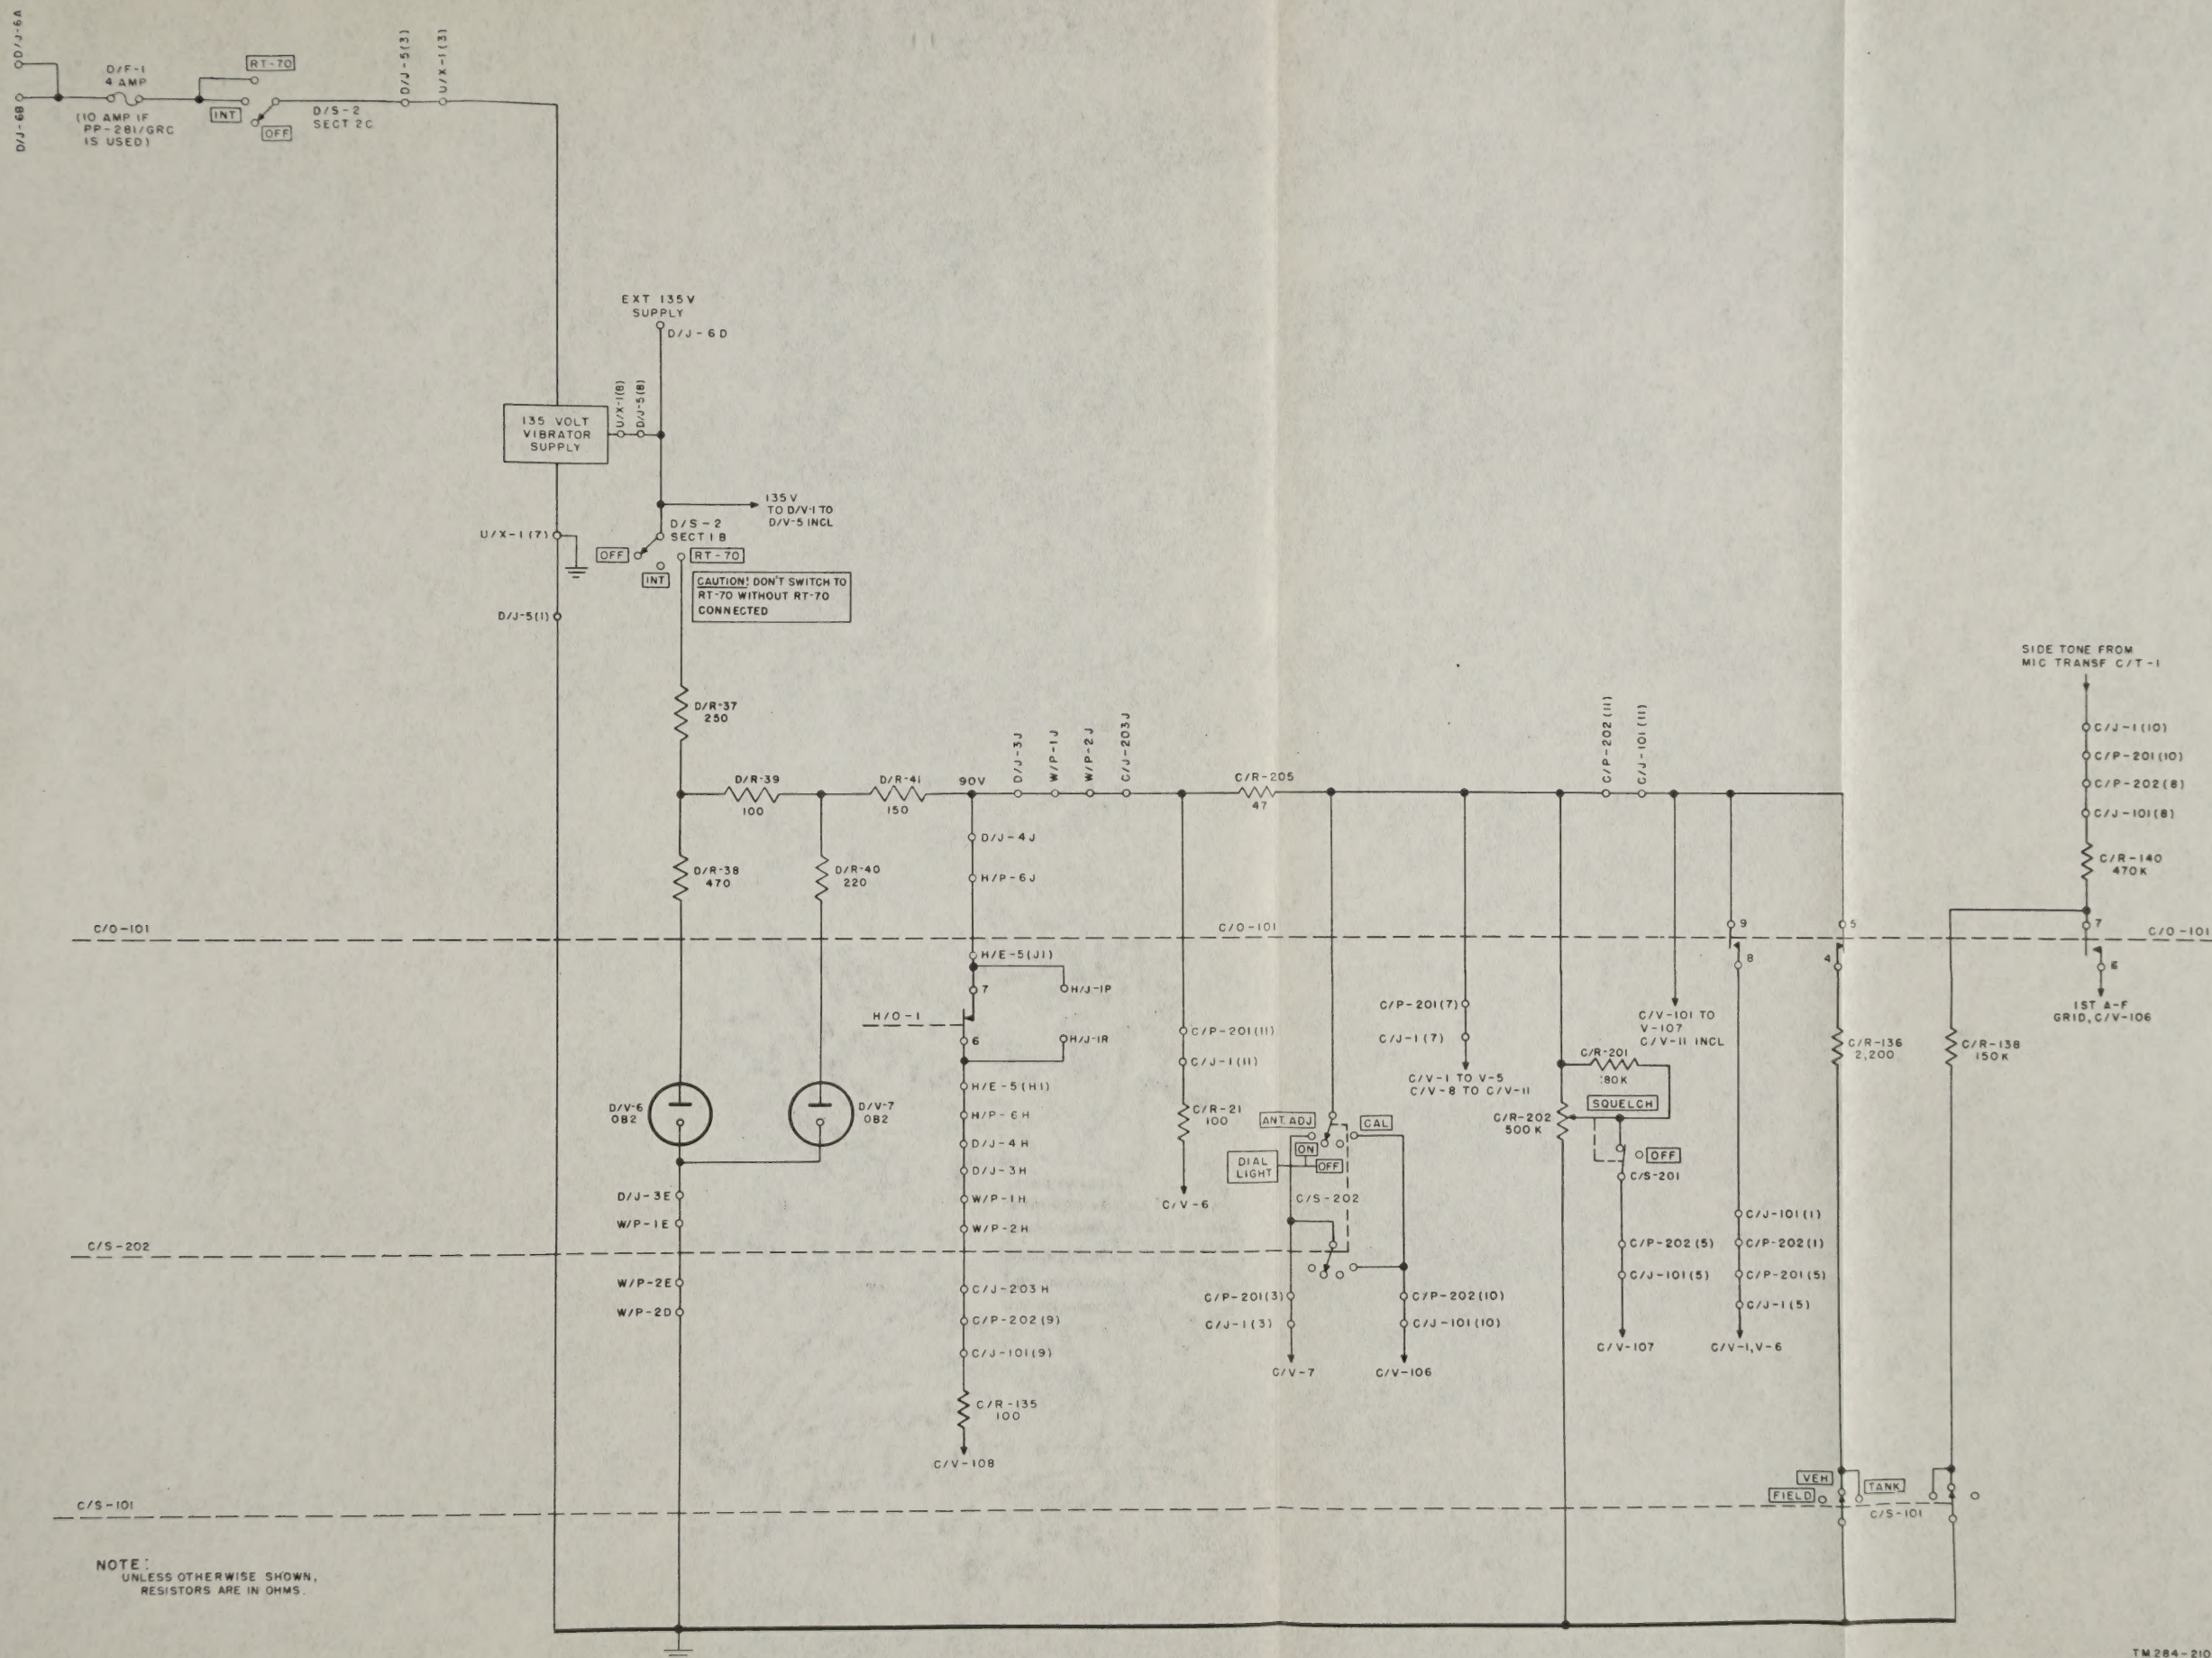

Figure 62. Power distribution to interphone amplifier and Set 2 plate and screen circuits.
c. *Amplifier Plate and Screen Supply.* The input voltage for the plug-in vibrator power supply in the amplifier is supplied through terminals D/J-5(3) and U/X-1(3) (fig. 62). The vibrator power supply develops a 135-volt output which is applied to the amplifier and Set 2 plate and screen circuits (fig. 62). The amplifier tubes (V-1 through V-5) are supplied directly from the output of the vibrator. Provisions are made through terminal D/J-6D (POWER IN) to substitute an external 135-volt source for the vibrator output.
- (1) A 90-volt potential supplies the plate and screen requirements of Set 2. The output of the vibrator in the power supply within the amplifier is applied to a protection circuit through the RT-70 contacts of section 1B of OFF-INT-RT-70 switch D/S-2 (fig. 62). The output of the protection circuit is distributed to the plates and screens of all tubes. If ANT ADJ DIAL LIGHT ON-OFF-CAL switch C/S-202 is in the ANT ADJ position, potential also is supplied to calibrate oscillator C/V-7. When the switch is in the